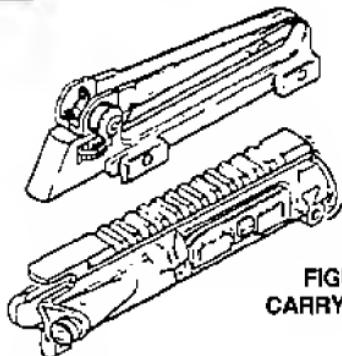

FIGURE 15 --
Clean and lubricate (as described on page 47 items 11, 12 and 13.) When the carrying handle is off the rifle, lightly lubricate the two securing screw threads and make sure the flat top of the rifle is clean and free from damage. (See Figure 15).